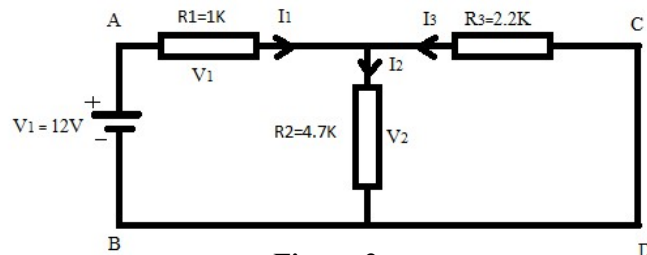

Figure 2
2. Make the circuit on the breadboard as per Figure 2,